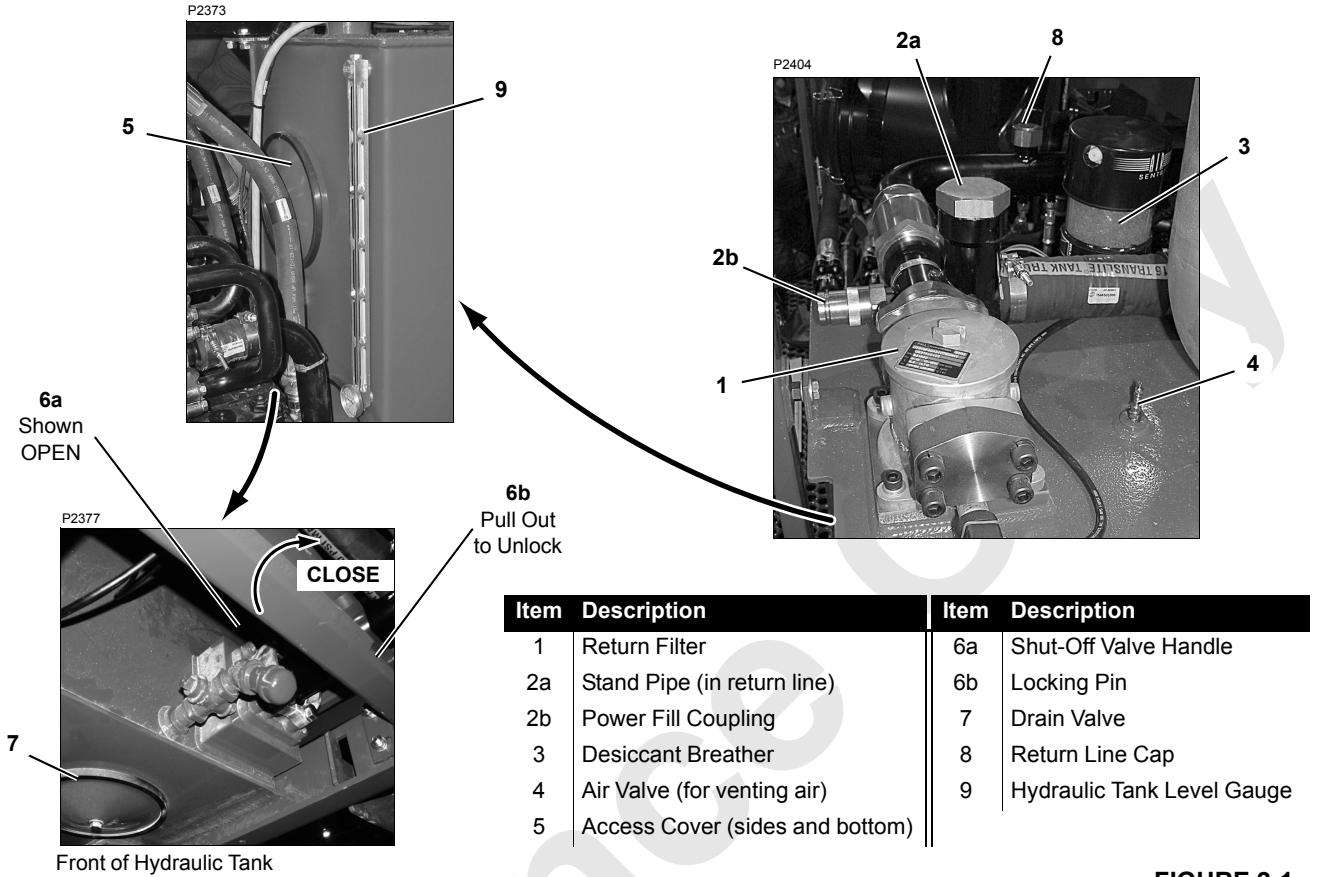
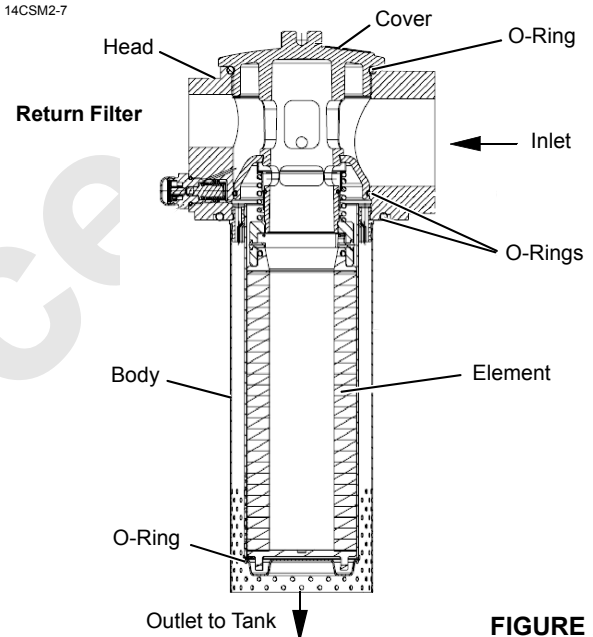

FIGURE 2-1
FIGURE 2-6
- Fill tank through stand pipe at top of tank (2a, Figure 2-1) or by pumping oil through power fill coupling (2b) with owner supplied portable pump.
This crane has one hydraulic return filter (1, Figure 2-1) 12-micron absolute which filters all oil returning to tank.
See Figure 2-1 and Figure 2-6 for the following procedure.
Relieve pressure through air valve (item 4, Figure 2-1) on tank before servicing.
See Figure 2-1 for the following procedure.